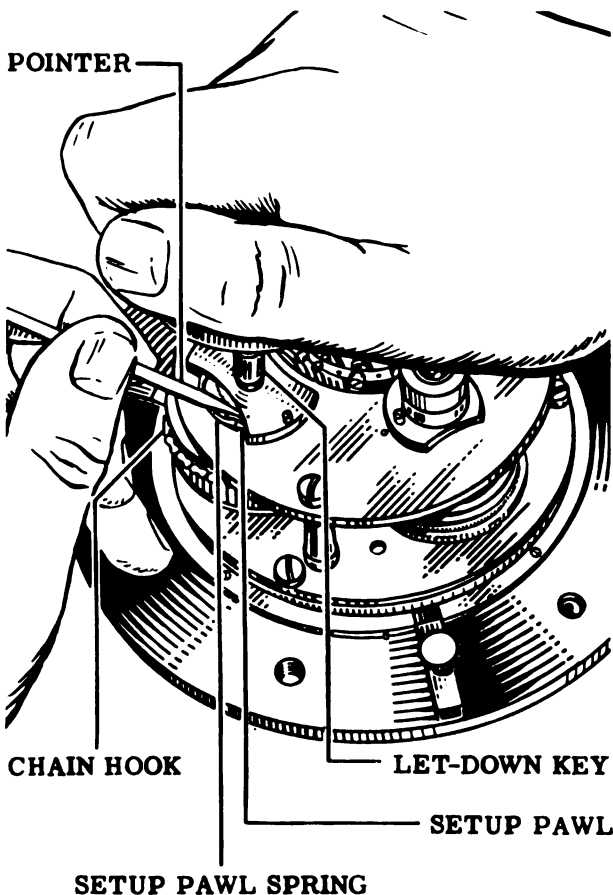

Figure 17
8. Using let-down key (Tool No. 18) on the barrel arbor, disarm mainspring by allowing the key to rotate slowly in the fingers while the setup pawl is held away from the setup ratchet wheel. See Fig. 17. Unhook chain from barrel.